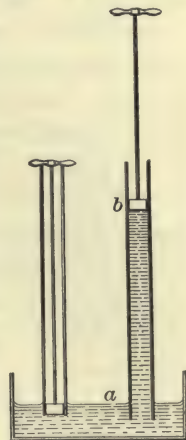

FIG. 193. — The atmosphere pressing downward on *a* pushes water after the rising piston *b*.
(1) Air has weight. One cubic foot of air, at atmospheric pressure, weighs  $1\frac{1}{4}$  ounces. (See Chapter XXXVIII.)
(2) The air around us presses with a force of about 15 pounds upon every square inch of surface that it touches.
(3) Air is elastic. It can be compressed, as in the balloon or bicycle tire, but it expands immediately when pressure is reduced. As it expands and occupies more space, its pressure falls and it exerts less force against the matter with which it comes in contact. If, for example, one cubic foot of air is allowed to expand and occupy two cubic feet of space, its pressure is reduced one half. When air is compressed, its pressure increases and it exerts a greater force against the matter with which it comes in contact. If two cubic feet of air are compressed to one cubic foot, the pressure of the compressed air is doubled.
**The common pump or lifting pump.**—Place a tube containing a close-fitting piston in a vessel of water, as shown in Figure 193. Then raise the piston with the hand and notice that the water rises in the piston tube. The atmosphere presses with a force of 15 pounds upon every square inch of water in the large vessel and forces some of it into the space left vacant by the retreating piston. The common pump works in a similar